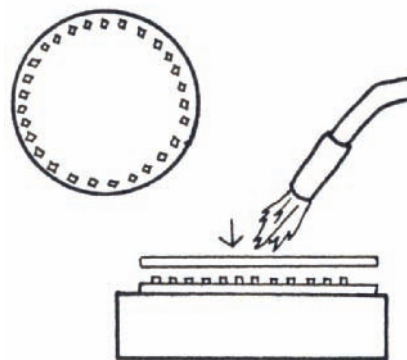

Figure 6.11. Solder Setup
6. Light a propane torch and rotate the flame around the outside of the piece. Keep rotating it until the flux turns white. At this point, direct heat can be applied to the solder areas. (See Figure 6.11, page 270.)